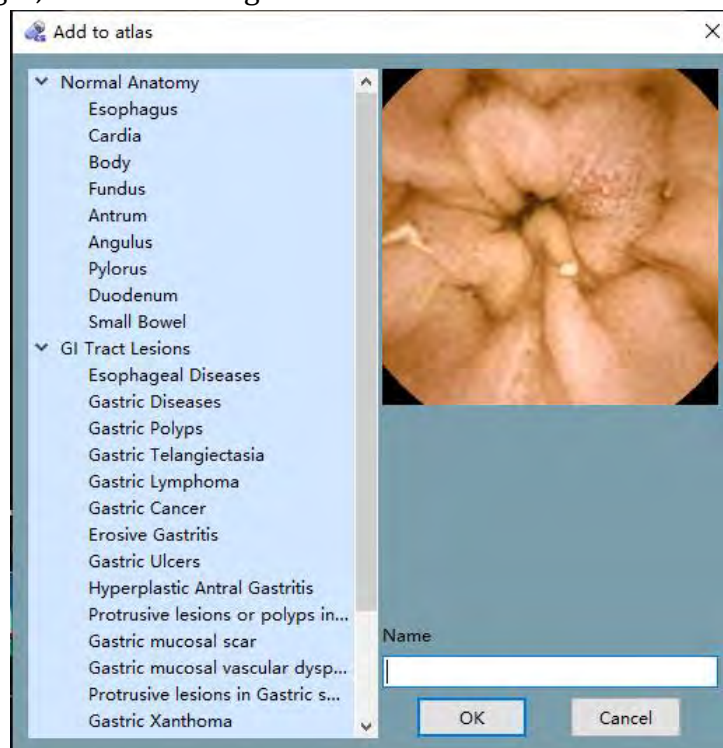

Figure 4-50: Add to Atlas Interface
2. In the add to atlas interface, select an atlas type in the list on the left and fill in the name in the text box on the right, as shown in Figure 4-50. Click “OK” to confirm.